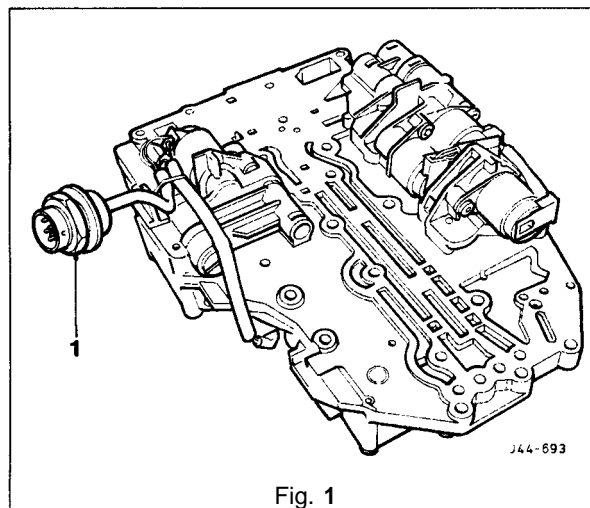

Fig. 1
- Disconnect the rotary switch harness multi-pin plug (1 Fig. 1) from the transmission multi-pin socket.